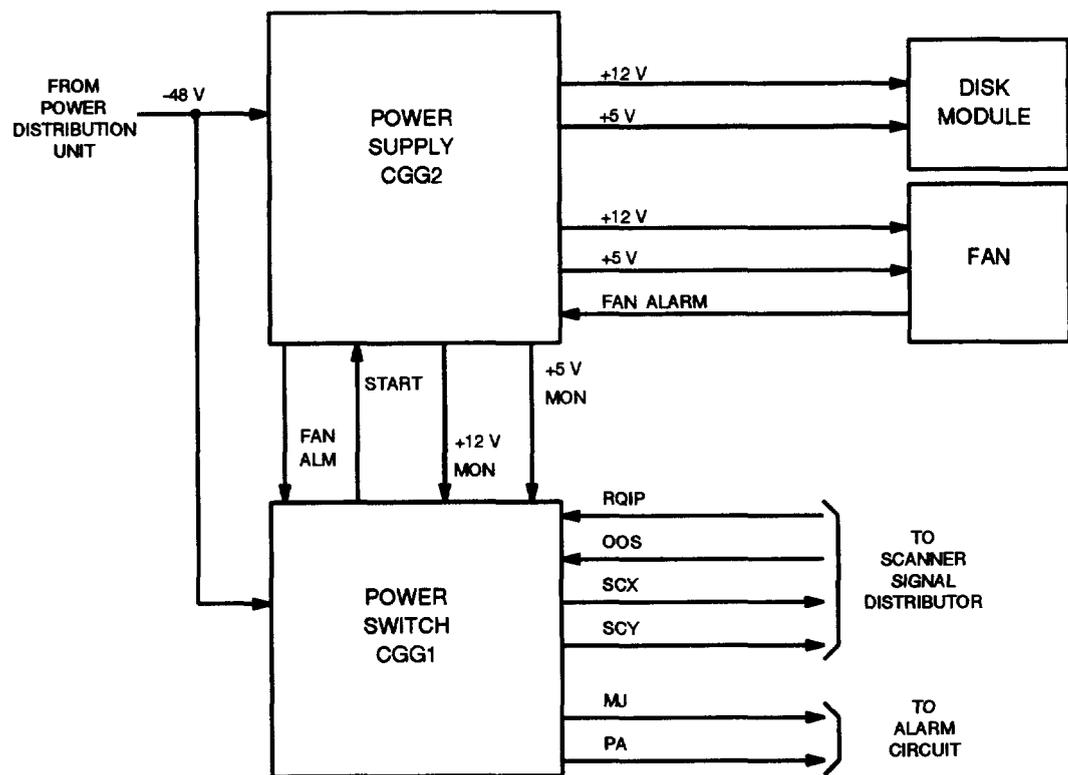

Figure 9. Disk Unit Package Power Block Diagram
4.01 A power distribution block diagram for the DUP is shown in Figure 9. Input -48 V DC is fused at the power distribution unit at the top of the SCSI disk cabinet. Internally, the -48 V DC is routed to the power supply (CGG2) and to the power switch (CGG1). The power supply converts the input voltage to +5 V DC and +12 V DC which is routed to the disk module and monitored by the power switch. The fan is also powered by +12 V DC and receives +5 V DC for the performance sensor to produce an alarm signal in the event of a fault.